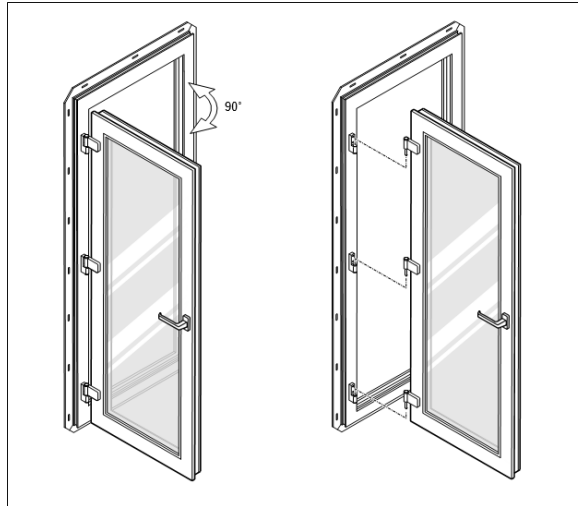

Figure 4-9. How to remove the sash from the hinges
- 3.4 With the help of an assistant, gently lift the sash up and free of the hinges. Move the sash away from the frame. See fig. 4-9.
- 5.2 With the help of an assistant, lift the sash. Put the sash **in the open position**: make sure that the hinge pins correctly engage in the frame portion of the hinge. See fig. 4-9.